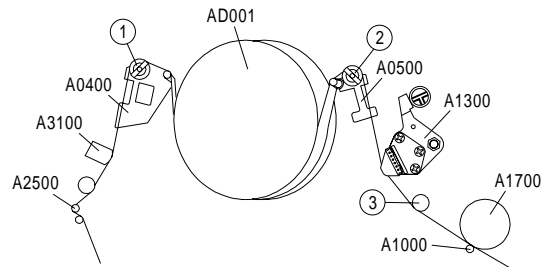
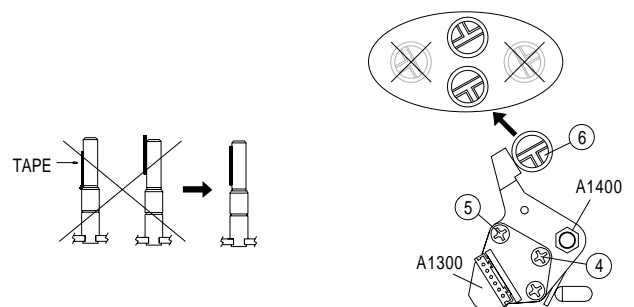

Fig. 22
Fig. 24
- Re-adjust the reverse rollers (1) / (2) (Fig. 22) if necessary so that the tape does not touch the top or bottom edge of the rollers.
- Adjust the tilt of the A/C head with screw (4) (Fig. 24) so that the tape passes the tape guide pin (3) (Fig. 22 / 23) in the middle between the top and bottom edge.
- Set the height adjustment screw (Pos. A1400, Fig. 24) for maximum output voltage.
- Set the azimuth adjustment screw ⑤ (Fig. 24) for maximum output voltage.
- Press button ① and confirm with the button.
- With the buttons select "SERVICE CODE" and enter the code number ⑧ ⑤ ⑧ ⑧.
With the X-value adjustment screw ⑥ (Fig. 24) in mechanical mid-position adjust the X-value in mechanical mid-position in the tracking functions "ATK off – max" and "ATK off – min" to obtain FM packages of the same amplitude.
- Adjust the reverse rollers ① / ② (Fig. 22) so that the FM packages at the tape lead-in and lead-out side do not exceed the limit value $b/a \geq 0.75$ (Fig. 25).
- Set the reverse rollers ① / ② (Fig. 22) so that the amplitude of the FM packages is as flat as possible.
- Press the "picture search reverse" button followed by the "play" button after 15 seconds. After another 3 seconds the FM packages must recover their maximum amplitude and flat envelope. If necessary, re-adjust the reverse rollers ① / ② (Fig. 22).